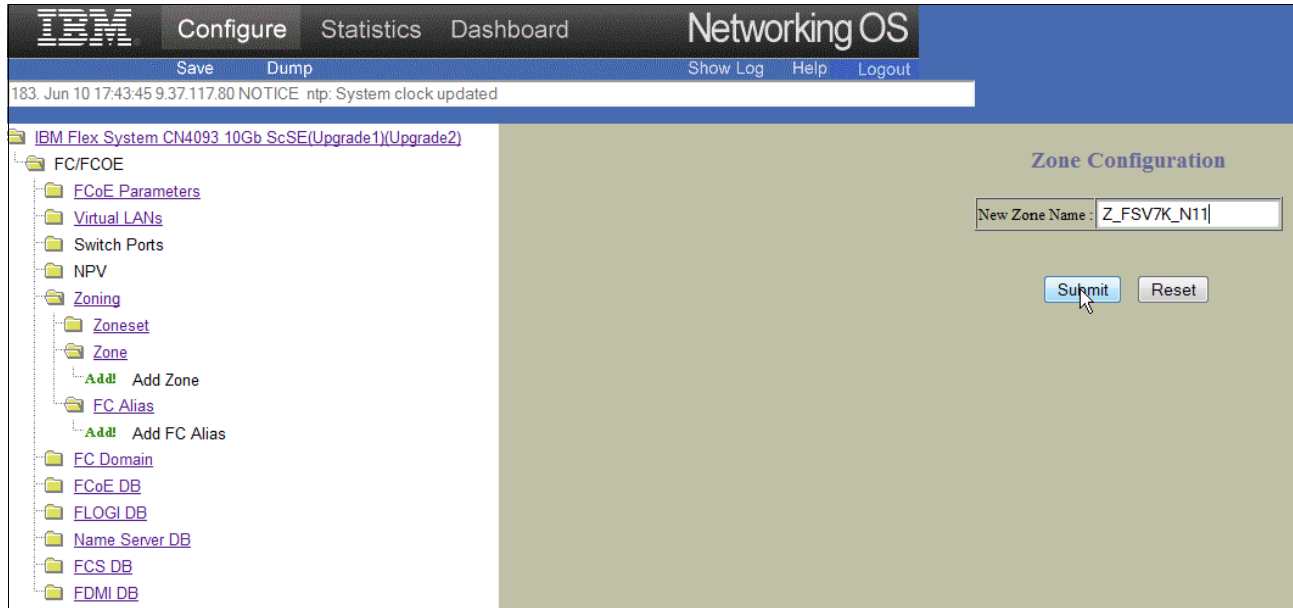

Figure 8-11 Define Zone name
10. Add a new zone. In our example, this is **Z\_FSV7K\_N11**. Click **Submit** as shown in Figure 8-11.